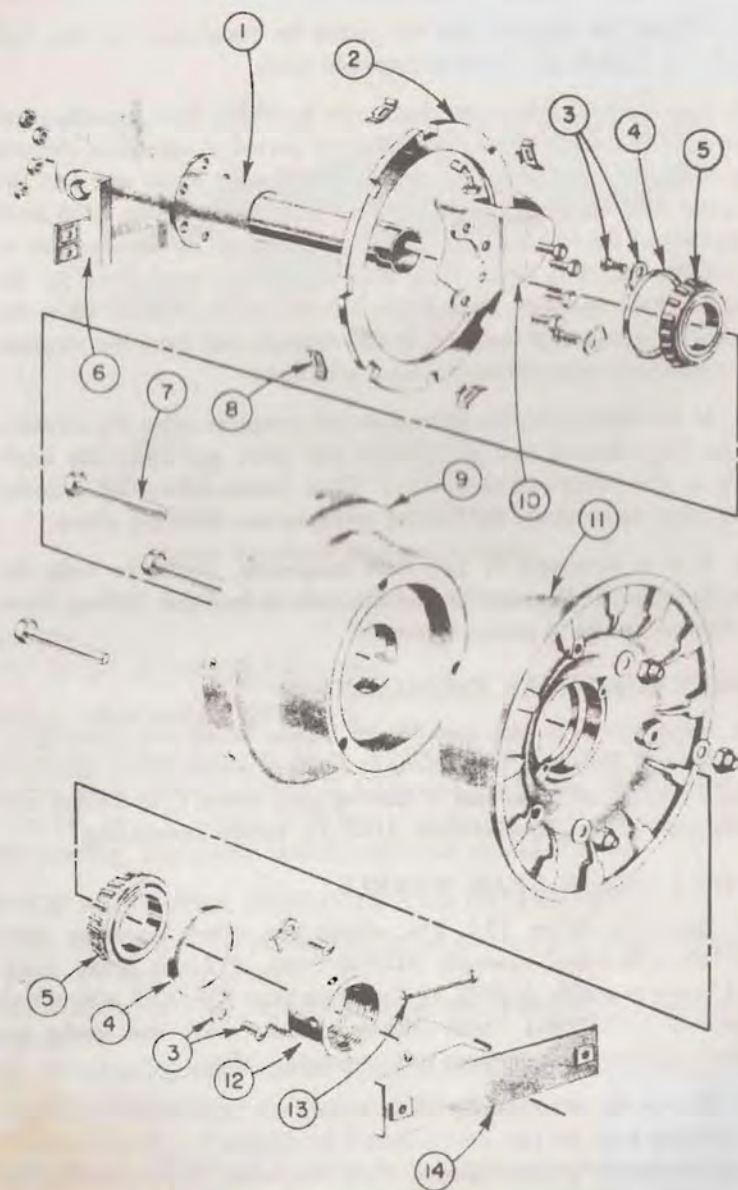

Figure 33—Main Wheel Assembly
16. (Refer to figure 33.) The wheels are either Goodyear type PD-140 with wheel assembly 511960 (with .312-inch brake disc) and brake assembly 511972, or Goodyear type PD-127-2 with wheel assembly 511413-M-1 (with .188-inch brake disc) and brake assembly 511640. The castings are magnesium alloy.